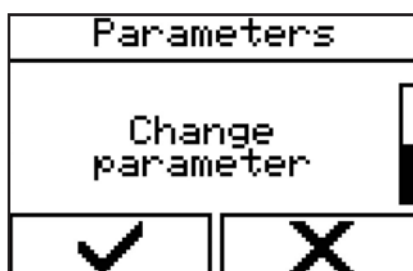

Figure 131 - Selecting a menu
1. Select the menu via 'Control' → 'Parameter' → 'Change parameter' (Figure 131).